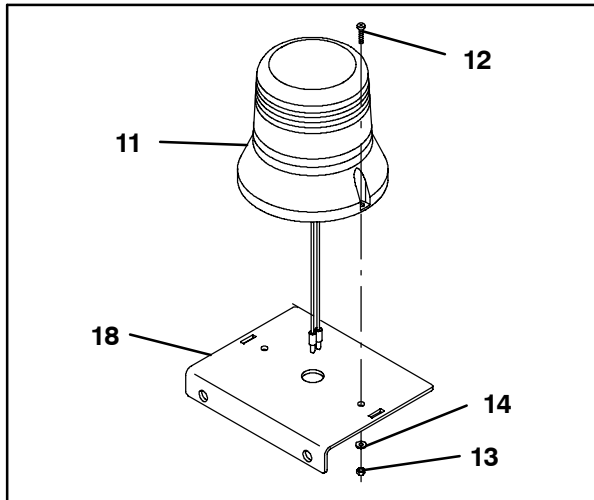

FIG. 2
6. Trim the flashing light (11) wires to a 9" length and backup alarm (1) wires to a 5" length. Crimp the bullet terminals (27) onto the wires.
7. Trim the spot light (8) wires to a 6" length and crimp the QF terminals (28) onto the wires.
8. Route the flashing light (11) cable through the hole in the light mounting plate (18) and use two pan screws (12), two flat washers (14), and two hex nuts (13) to install the light onto the light mounting plate. Refer to Fig. 2.